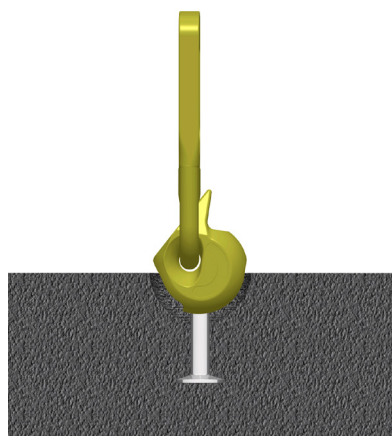

Figure 1
1. Hold the CONAC Lifting Eye upside down such that the opening of the bail is placed directly on the anchor head (Figure 1).